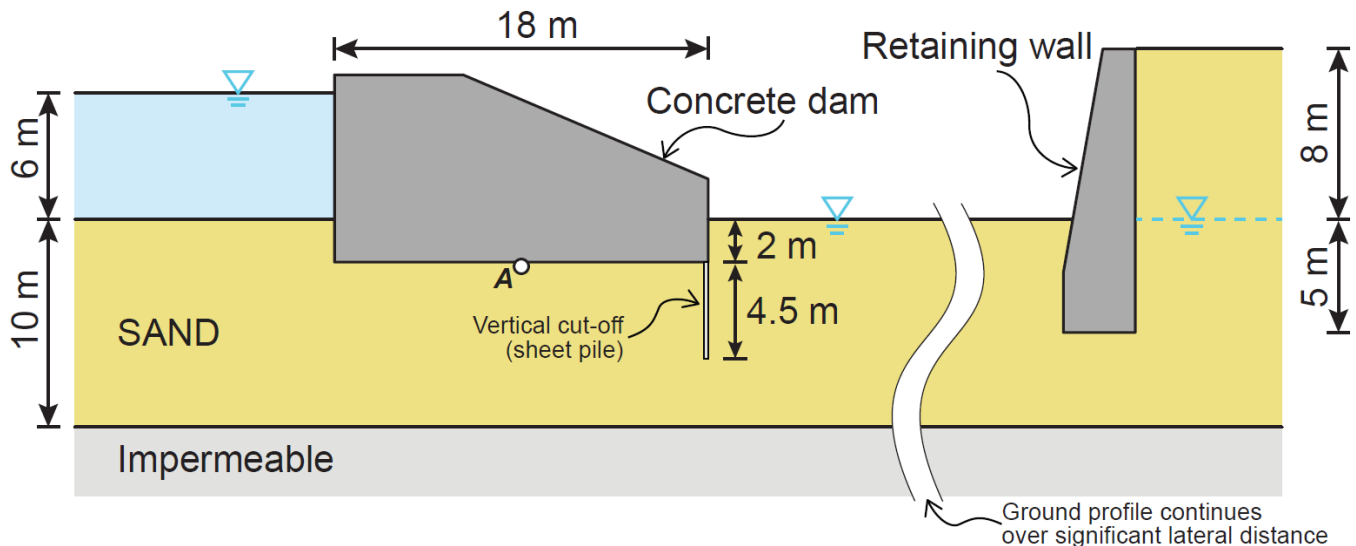

Figure QB2. Cross-section of the site comprising SAND
- B2. A site underlain by SAND is to be developed as part of a construction project (**Figure QB2**). Development of the site includes a concrete dam to retain a body of water, as well as a retaining wall. Beneath the SAND is stiff CLAY. Properties of the SAND are:
- The 13 m high retaining wall shown in **Figure QB2** supports SAND with an effective friction angle of 33° . The groundwater level is 8 m below the top of the wall. Determine the total forces acting on the back of the wall (active thrust) per metre run. Assume hydrostatic pore-water pressures behind the wall. [10 marks]
- Draw a flow net for seepage under the concrete dam in **Figure QB2**. Flow through the underlying CLAY layer is negligible (i.e., treat it as impermeable for the purpose of drawing the flow net). *[Note: You must draw **Figure QB2** to scale to obtain a solution. Please use the graph paper provided. Ignore the adjacent retaining wall for the purpose of drawing the flow net.]* [10 marks]